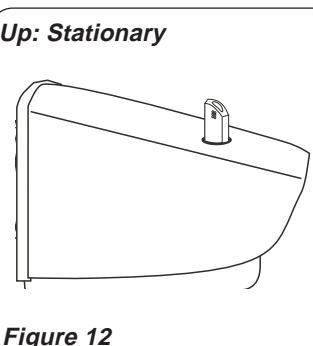

Figure 12
- OSCILLATION:** Push down oscillation knob on motor assembly housing to make fan head move from side to side. (**Figures 12 and 13**)